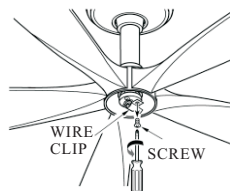
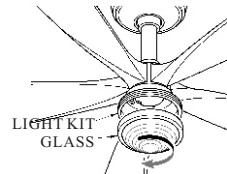
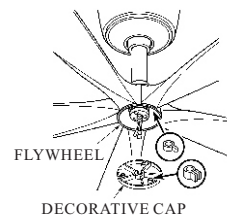

FIG. 11
FIG.19
FIG.20
When you want to install light kit, remove the wire clip first. (see fig.11)
6. Turn the glass assembly to install onto light kit plate. (see fig.19)
7. If you do not need the light kit, you can also install the decorative cap directly onto the flywheel. Skip fig.11 to fig.19. Align the 3 slots with 3 ribs, and lift the decorative cap onto flywheel and tighten the 3 long screws. (see fig.20 and fig.21)